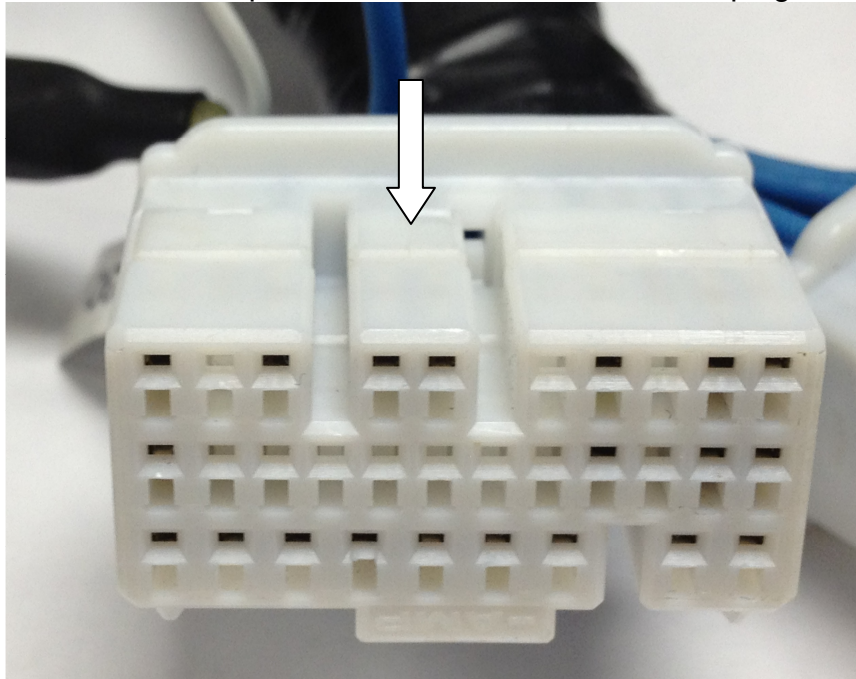

Figure 12: Ensure pin lock is relocked
6. Push the pin lock back into place until it is flush with the ECU plug as shown in figure 12: